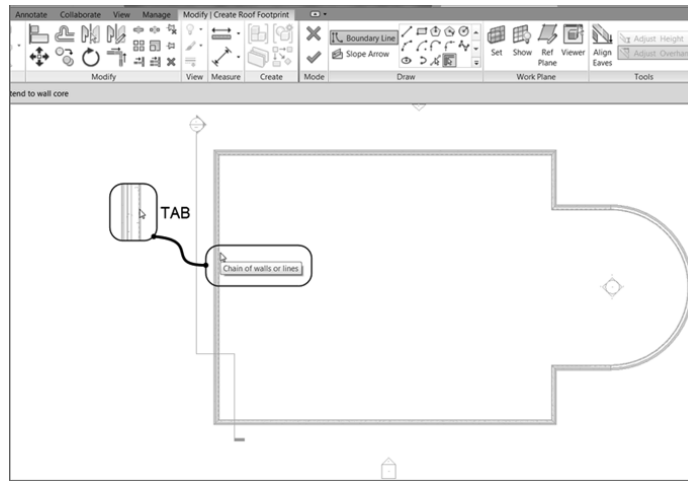

FIGURE 7.3: Adding a sketch line to the perimeter of the building by picking walls
9. On the Modify | Create Roof Footprint tab, be sure the Pick Walls button on the Draw panel is selected, as shown at the right in Figure 7.3.
13. Hover your pointer over the leftmost vertical wall. When it becomes highlighted, press the Tab key on your keyboard. All the perimeter walls highlight (see Figure 7.3). When they do, pick (left-click) anywhere along the wall. This places a magenta sketch line at the perimeter of the building.